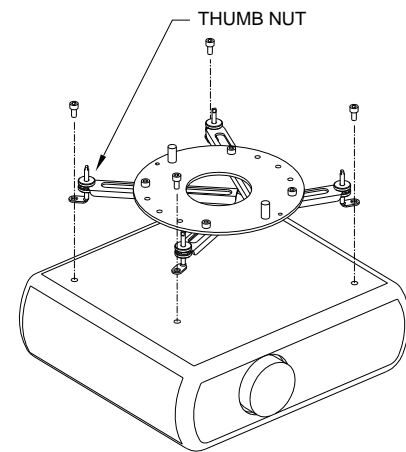

Figure 6
4. Secure Universal Projector Mount to projector. See Figure 6. Thumbnuts can be used for fine-tuning projector position in next step.